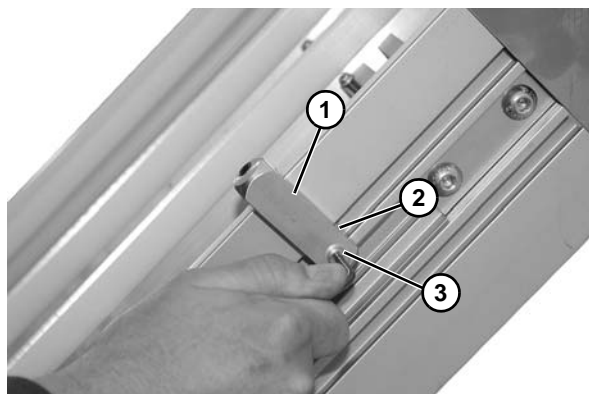

Figure 32
1. Install guide block (**Figure 32, item 1**) with drop-in tee bar (**Figure 32, item 2**) in conveyor slot
2. Tighten socket head screw (**Figure 32, item 3**) to secure position.